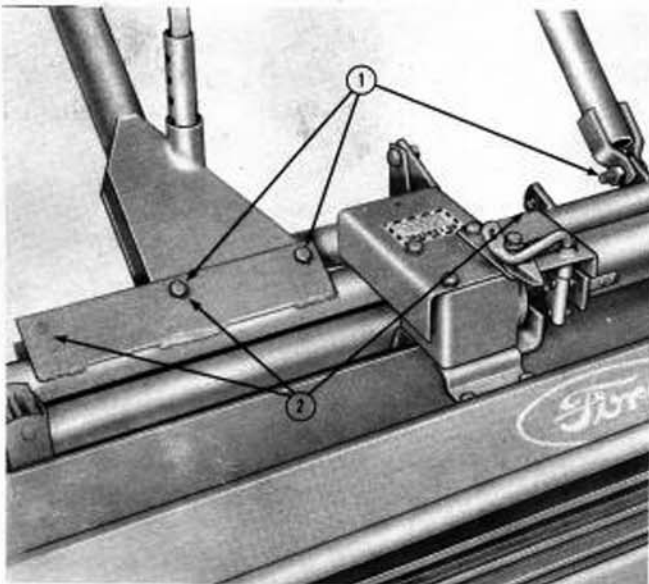

Figure 8 - Semi-Mounted Hitch Attached to Conditioner
Begin attaching the unit to the tractor by placing a suitable block under the frame and removing the bolts and spacers shown at (1), Figure 4. Attach the two draw arms to the conditioner at the three points shown at (1), Figure 8 for use with the 56" mower frame. When the 76" mower is used, the conditioner